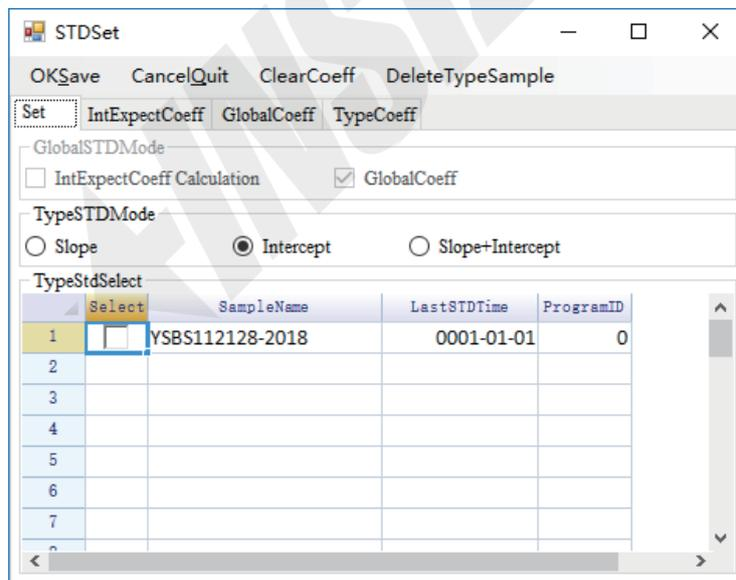

Fig.38 *STDSets* window (type)
(4) Click the *Select* bracket on the right of the standard name and then click *TypeSample* button to add the standard to the type standard selecting list in Fig.38.